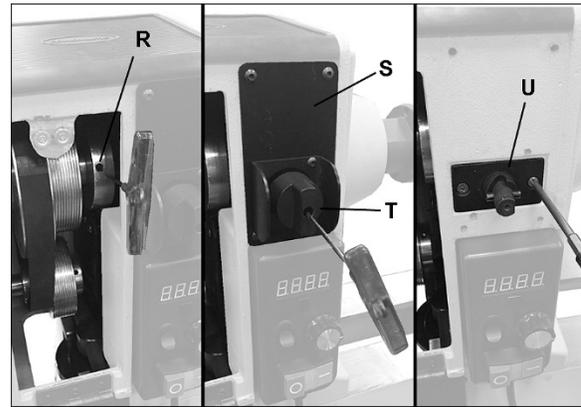
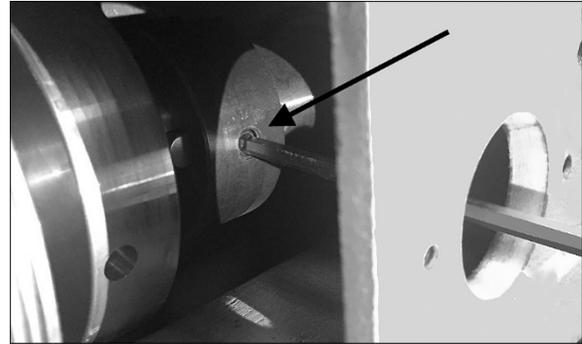

Figure 8-10: sensor and spindle lock collars
Figure 8-11: loosen spindle lock collar
6. Loosen two set screws on sensor collar (R, Figure 8-10).
7. Remove plate (S, Figure 8-10) and spindle lock switch (T, Figure 8-10). Remove inner plate (U, Figure 8-10) and insert hex wrench through hole to loosen set screw in spindle lock collar (Figure 8-11).
13. Reinstall plates and spindle lock switch (Figure 8-10).